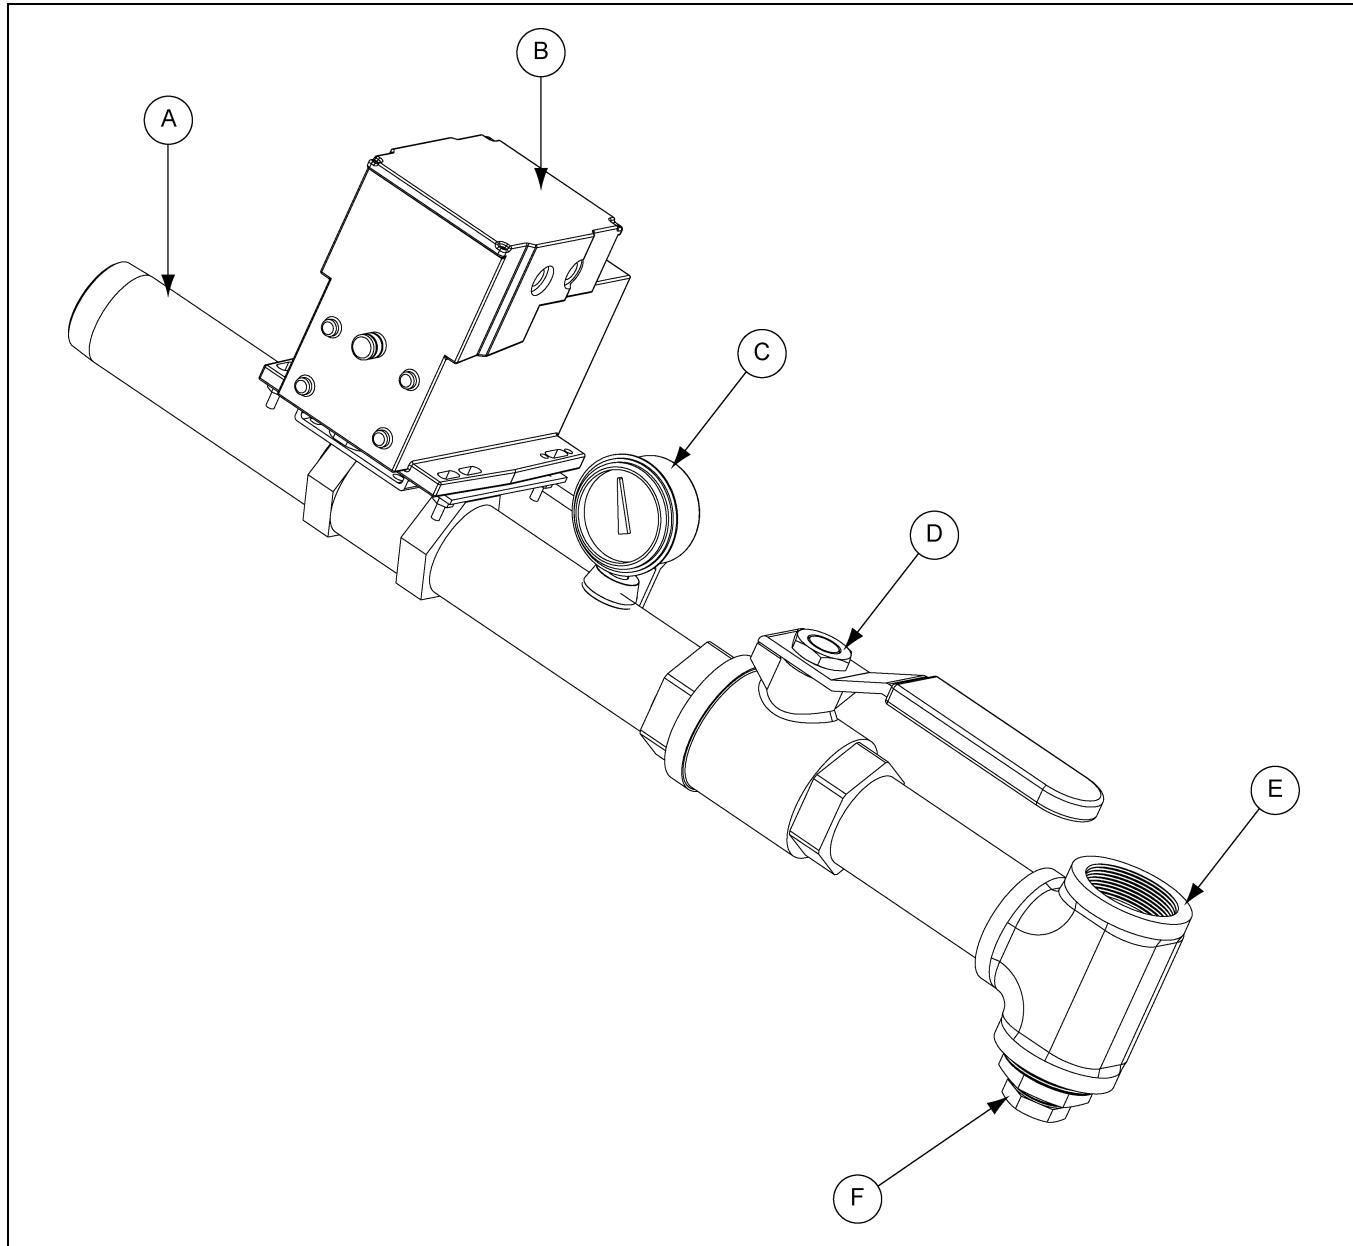

Figure 3F
6. Burner pressure with modulating valve at maximum read at burner pressure gauge. (See Figure 3F on Page 26.)
7. Burner pressure with modulating valve at minimum read at burner pressure gauge. (See Figure 3F on Page 26.)
- b. Close firing valve. (See Figure 3F on Page 26.)
- b. Close ‘firing valve’ on main gas line. (See Figure 3F on Page 26.)